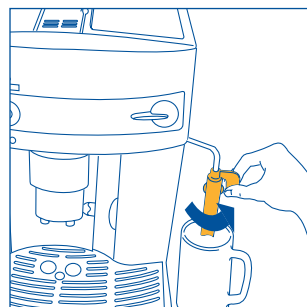
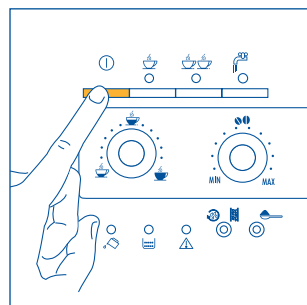
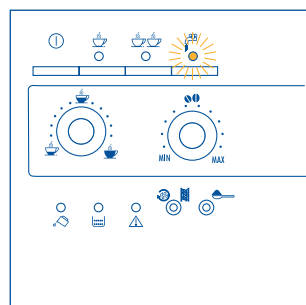

Fig.3
Fig.4
Fig.22
2. Move the milk frother towards the outside and place a cup underneath (Fig.3). Then turn the machine on by pressing the  button (Fig.4).
- Turn the cappuccino frother towards the outside of the machine (Fig. 3).
- Position a container underneath the milk frother (Fig. 3).
- Move the cappuccino frother outwards (fig. 3).
- Place an empty container under the cappuccino frother (fig. 3). Turn the steam knob a half turn counter-clockwise as far as it will go (the light flashes fig. 22). Run off the steam mixed with water for a few seconds until only steam is gone off.